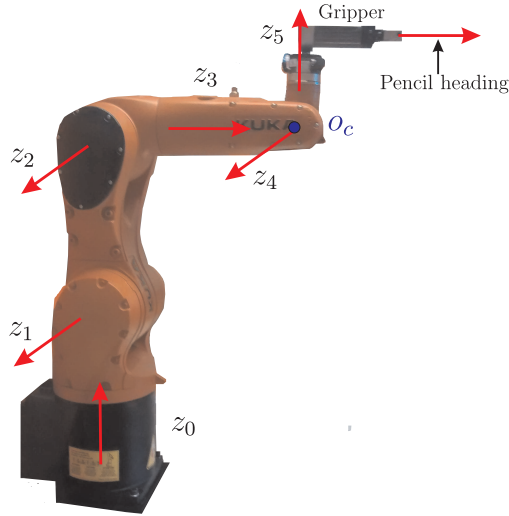

Figure 1: The KUKA robotic arm in the HOME configuration
The KUKA robotic arm depicted in Figure 1 is an articulated manipulator with a three-degree-of-freedom wrist and a gripper. Highlighted in Figure 1 are the axes of rotation of joints 1 to 6. A pencil, not displayed
in Figure 1, will be attached to the gripper and will point along the pencil heading direction indicated in the figure. The tip of the pencil is the end effector of the robot. The objective of this lab is to make the robot draw patterns on paper.
- `setHome(vel)` sets KUKA arm to the HOME configuration in Figure 1. `vel` corresponds to the speed of motion. For this lab, set `vel` to 0.04. To cancel the command during execution press `ctrl c` and run `stop()` in the Matlab command window.